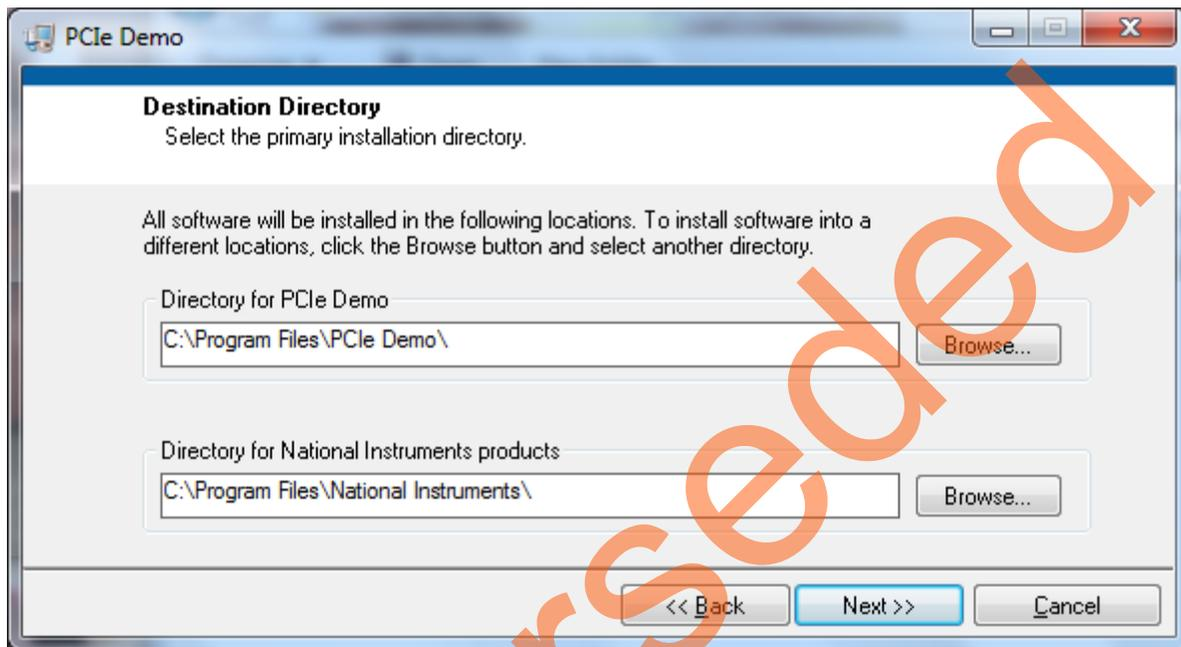

Figure 16 • GUI Installation
3. Double-click the **setup.exe** in the provided GUI installation (*PCIe_Demo_GUI_Installer\setup.exe*). Apply default options as shown in Figure 16.